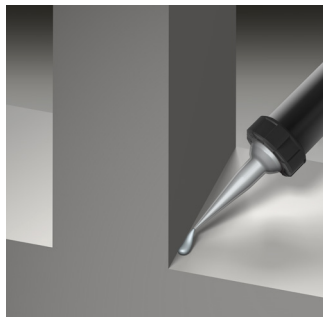

Figure 1: Apply a 10 mm diameter bead of SP525 to bottom corners of the window opening to match joint depth of tape
- To ensure a weathertight seal to the bottom corners, apply a 10 mm diameter bead of SP525 to bottom corners of the window opening to match joint depth of tape (Fig 1).